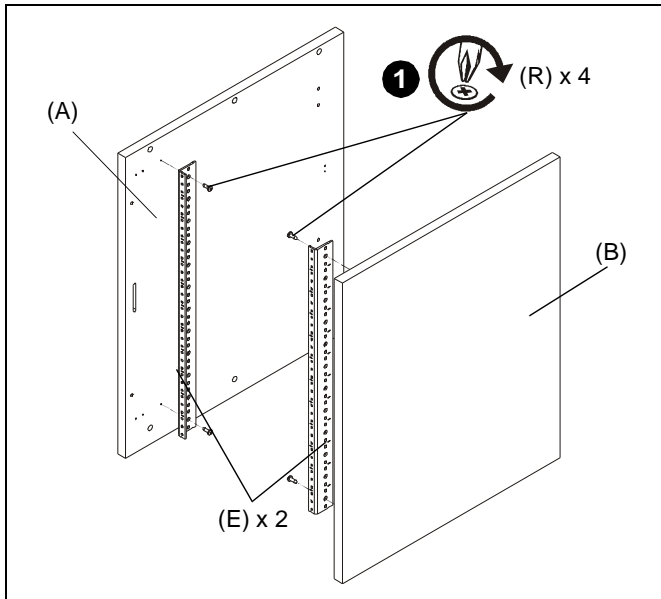

Figure 1
1. Use four #10 x 5/8" wood screws (R) to secure two rack rails (E) to two side panels (A and B). (See Figure 1)